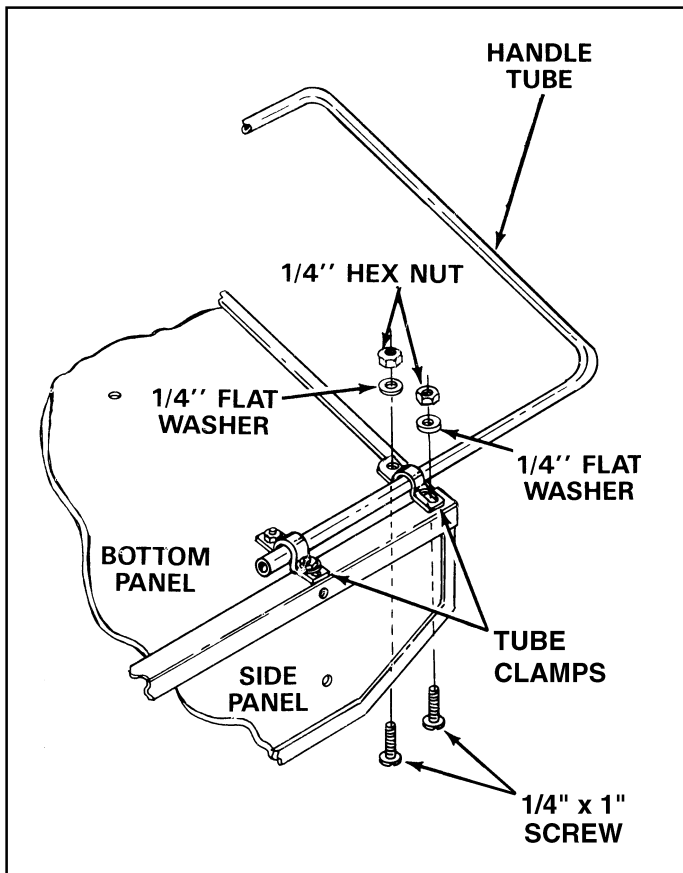

FIGURE 10
16. Turn the cart upside down. Place the handle tube on the bottom of the cart as shown in figure 10. Place the four tube clamps over the handle tube, **with the longer leg of each tube clamp to the outside.** Secure the four tube clamps over the handle tube using eight 1/4" x 1" screws, eight flat washers and eight hex nuts. Make only finger tight until all eight screws are in place and then **tighten securely.** See figure 10.
The length of the handle tube can be adjusted by sliding the tube in or out before tightening the four clamps. See figure 10.